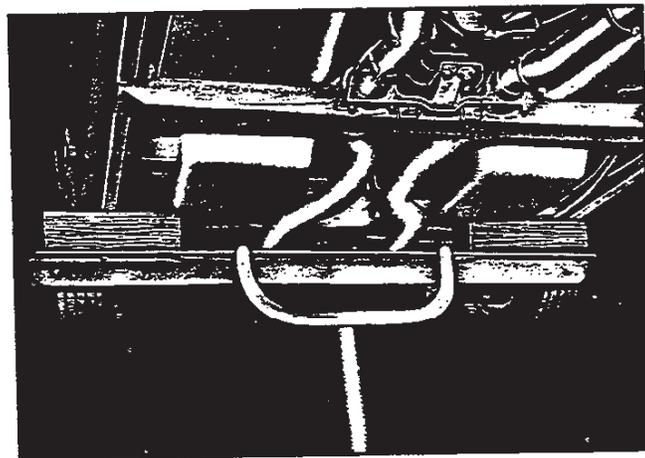

Fig. 9—Frame Lift Adapters—19000 Series
- b. If rear axle work is contemplated, use either suspension adapters or drive-on adapters at the front and frame lift adapters as shown in Figure 9. If frame lift adapters are not available, use jack stands.
**NOTE:** Wooden blocks, bolted to steel beam shown in Figure 9 are necessary to allow beam to clear exhaust system.